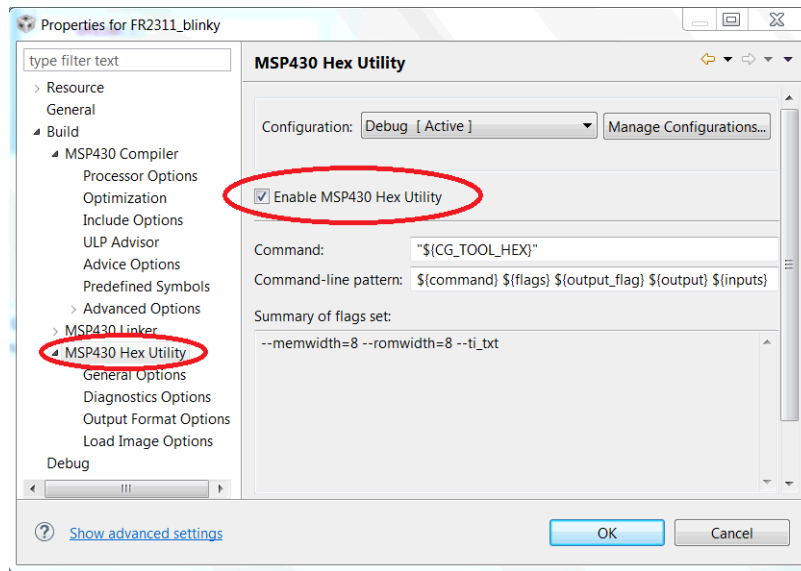
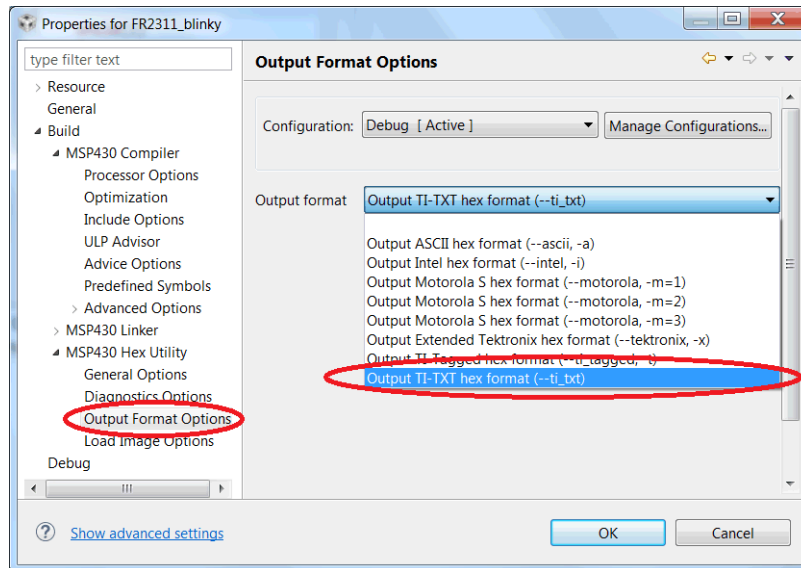
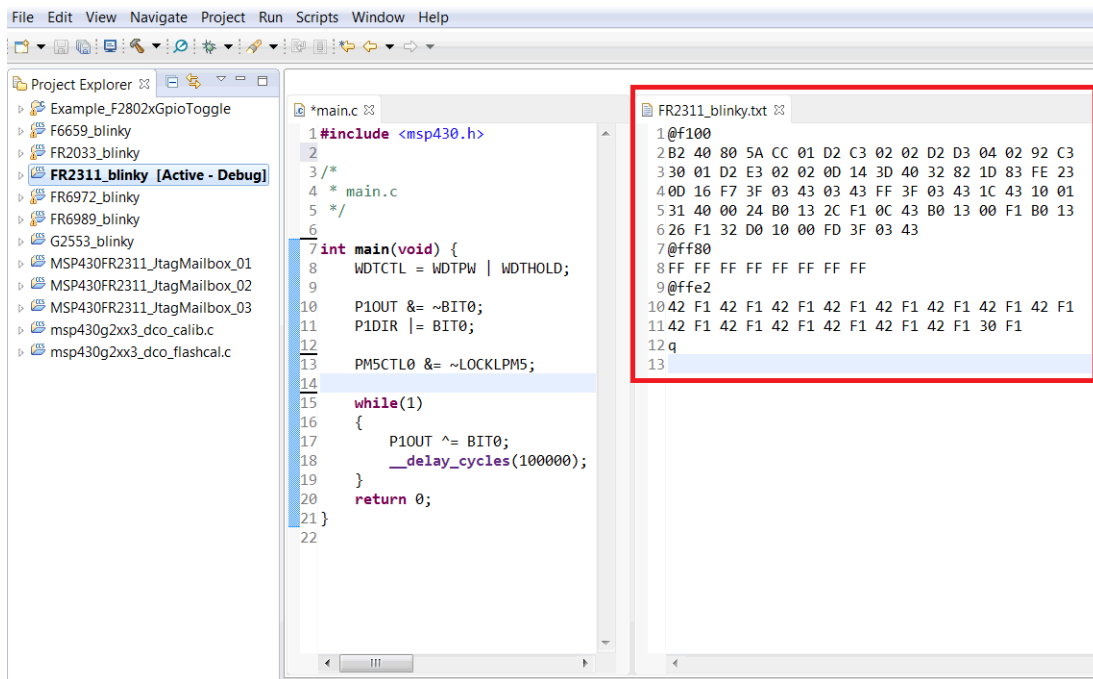

Figure 23. Enabling MSP430 Hex Utility
Figure 24. MSP430 TI-TXT Hex Format
Figure 25. MSP430FR2311 TI-TXT Hex Format Firmware Image
Figure 23, Figure 24, and Figure 25 show how to generate a TI-TXT hex file in CCS.
4. After the project is built, the .txt containing the full firmware image is created. Figure 25 shows this file.